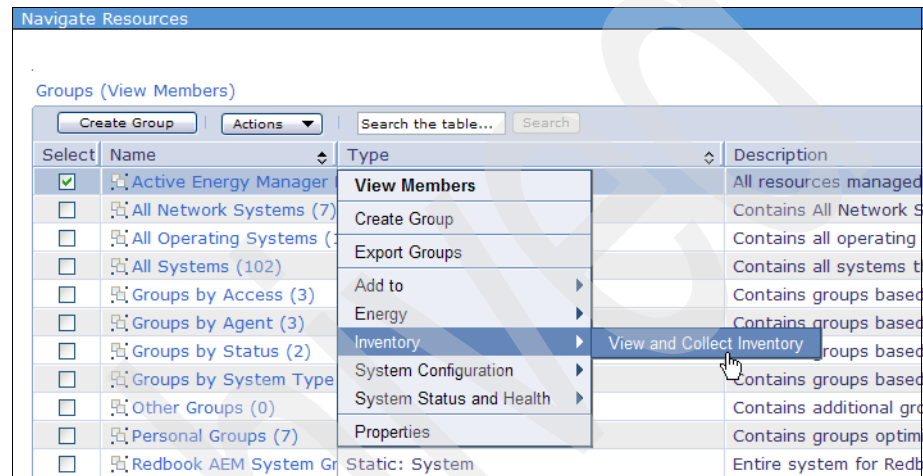

Figure 6-36 Collecting inventory for the Active Energy Manager group - 1
1. Close any open Navigate Resources tabs, and then click **Navigate Resources** in the left-hand navigation pane of the IBM Director Server display. On the Navigate Resources display, right-click an Active Energy Manager group, and select **Inventory** → **View and Collect Inventory** (Figure 6-36).